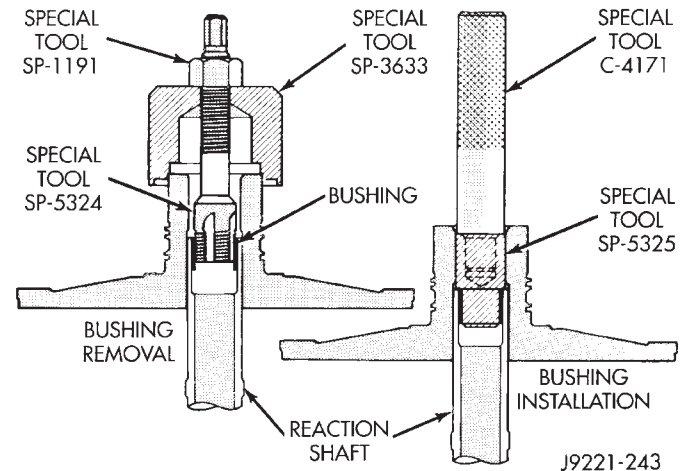

Fig. 143 Replacing Reaction Shaft Support Bushing
(1) Assemble Bushing Remover Tools SP-1191, 3633 and 5324 (Fig. 143). **Do not clamp any part of reaction shaft or support in vise.**
(2) Hold Cup Tool SP-3633 firmly against reaction shaft and thread remover SP-5324 into bushing as
(3) Turn remover tool hex nut down against remover cup to pull bushing from shaft. Clean all chips from shaft after bushing removal.
(4) Lightly grip old bushing in vise or with pliers and back remover tool out of bushing.
(5) Assemble Bushing Installer Tools C-4171 and SP-5325 (Fig. 143).
(6) Slide new bushing onto Installer Tool SP-5325.
(7) Position reaction shaft support upright on a clean smooth surface.
(8) Align bushing in bore. Then tap bushing into place until Bushing Installer SP-5325 bottoms.
(9) Clean reaction shaft support thoroughly after installing bushing.